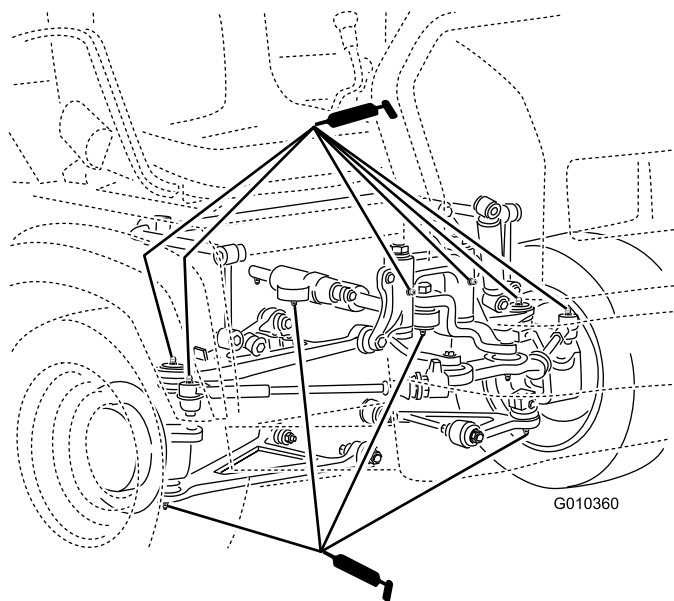

Figure 29
- **Ball joints (4);** refer to Figure 29
- **Tie rods (2);** refer to Figure 29
- **Pivot mounts (2);** refer to Figure 29
- **Steering cylinder (2);** refer to Figure 29